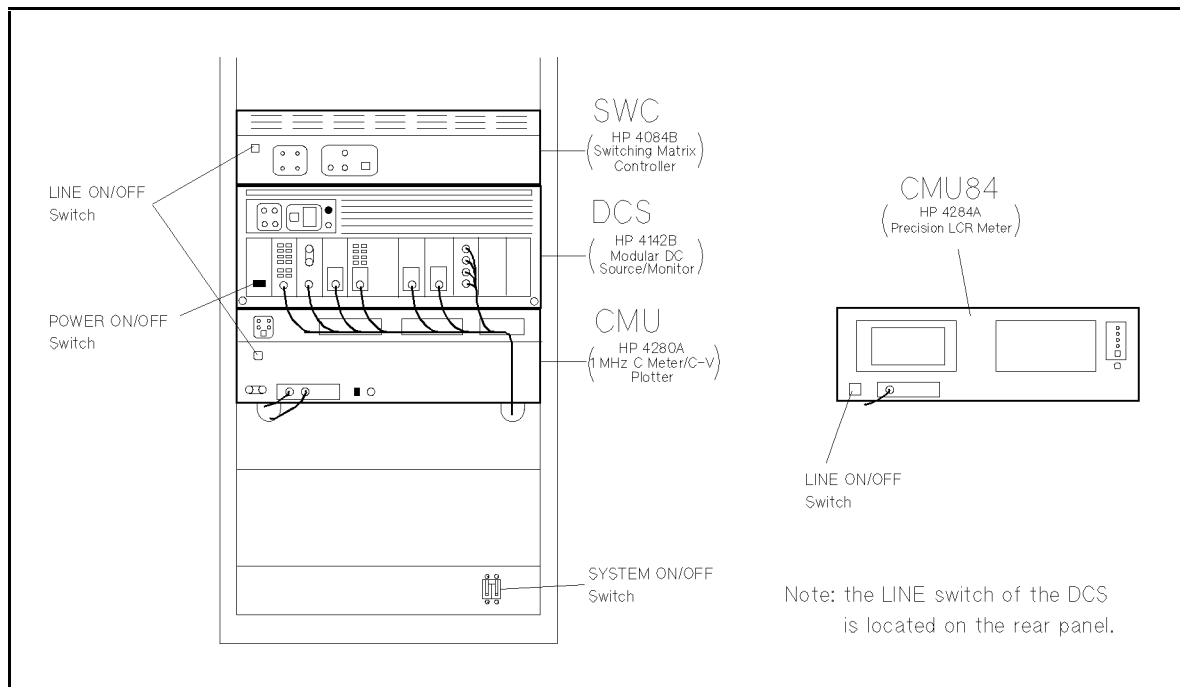

Figure 1-6. LINE Switch Location
3. Turn each instrument on (see Figure 1-6). For the DCS, the LINE switch is located on the rear panel, and the POWER switch is located on the front panel.
2. Turn each instrument off (see Figure 1-6).